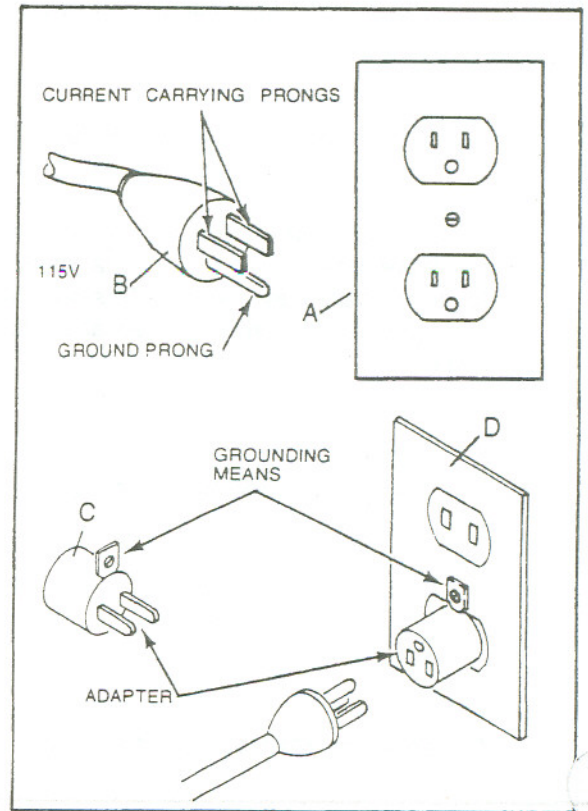
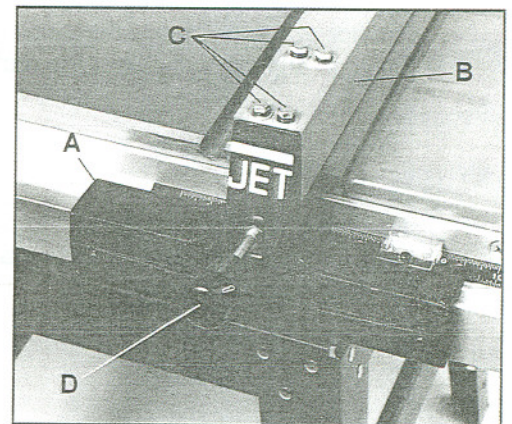

Fig. 26
Fig. 27
The JWTS-10JF table saw is rated at 115/230V and comes from the factory prewired 115V. The table saw comes with a plug designed for use on a circuit with an outlet that looks like (A) in Fig. 26. The JWTS-10JF has a grounding prong as illustrated in (B). A temporary adapter (C) may be used to connect the plug to a two pole receptacle (D) if a properly grounded outlet is not available. The temporary adapter should only be used until a properly grounded outlet can be installed by a qualified electrician. The green lug must be fastened to the cover plate screw.
1. Place fence body (A, Fig. 27) into fence (B, Fig. 26).
2. Install four bolts (C, Fig. 27) with flat washers and lock washers. Hand tighten.
3. Place fence assembly on guide rails, slide to nearest miter slot, and clamp handle (D, Fig. 27) to lock.
5. Tighten four bolts (C, Fig. 27).